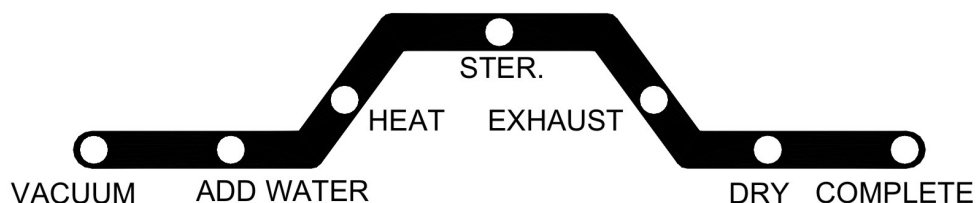

Figure 47
- D. Press the START button , the setting temperature, duration, and dry time displayed two times on the three-digit display, and then the sterilizer will automatically run through the selected program. The current progress of the sterilization cycle is indicated by the illuminated LED on the Process Status Indicator. (Figure 47)